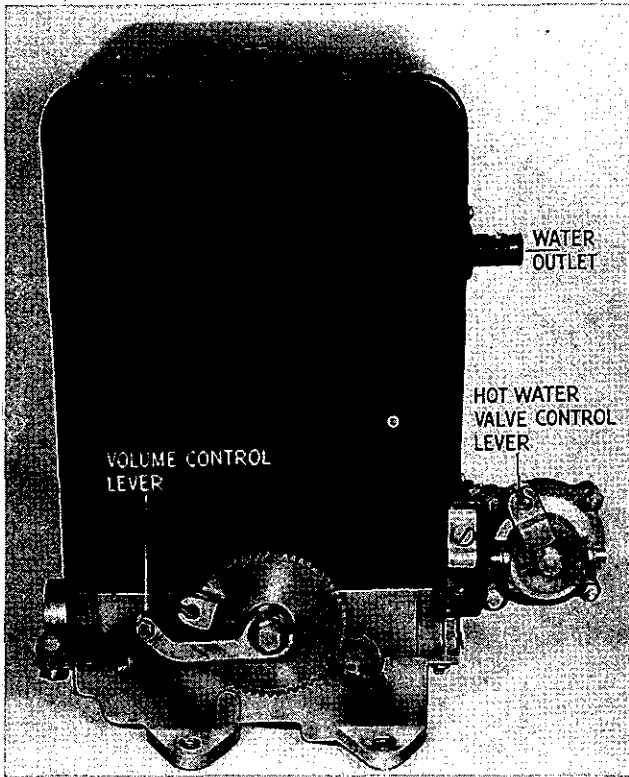

Fig. 4. Showing hot water valve and volume control levers.
14. Pass control cables through their grommets and connect to their respective levers on the heater unit (see Figs. 4 and 5).